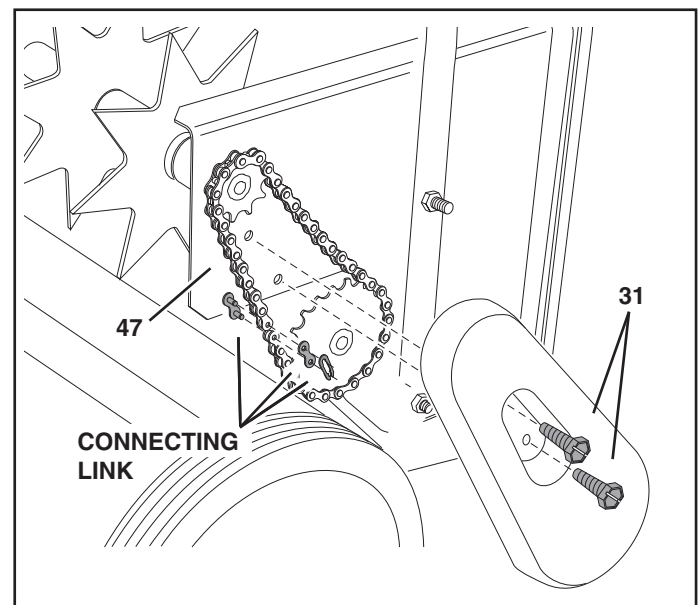

FIGURE 23
- Assemble the chain (47) onto the two sprockets on the left side of the hopper. Fasten the ends of the chain together using the connecting link. See figure 23.
- Place the chain cover over the chain and fasten it to the hopper end plate using two self tapping screws (31). See figure 23.